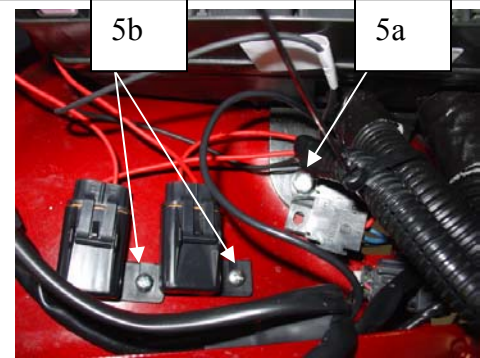

Figure 5a
4. Use an existing screw in the body (Figure 5a) to fasten the relays. Use the 10 mm socket with the 8" extension to remove the screw. A new screw will be used to fasten down the relays. Connect the relay housing by the, inter locking system then unplug the circuits. Fasten down the relay housing using P/N 00-9001-C07636\*, and then reconnect the relay.